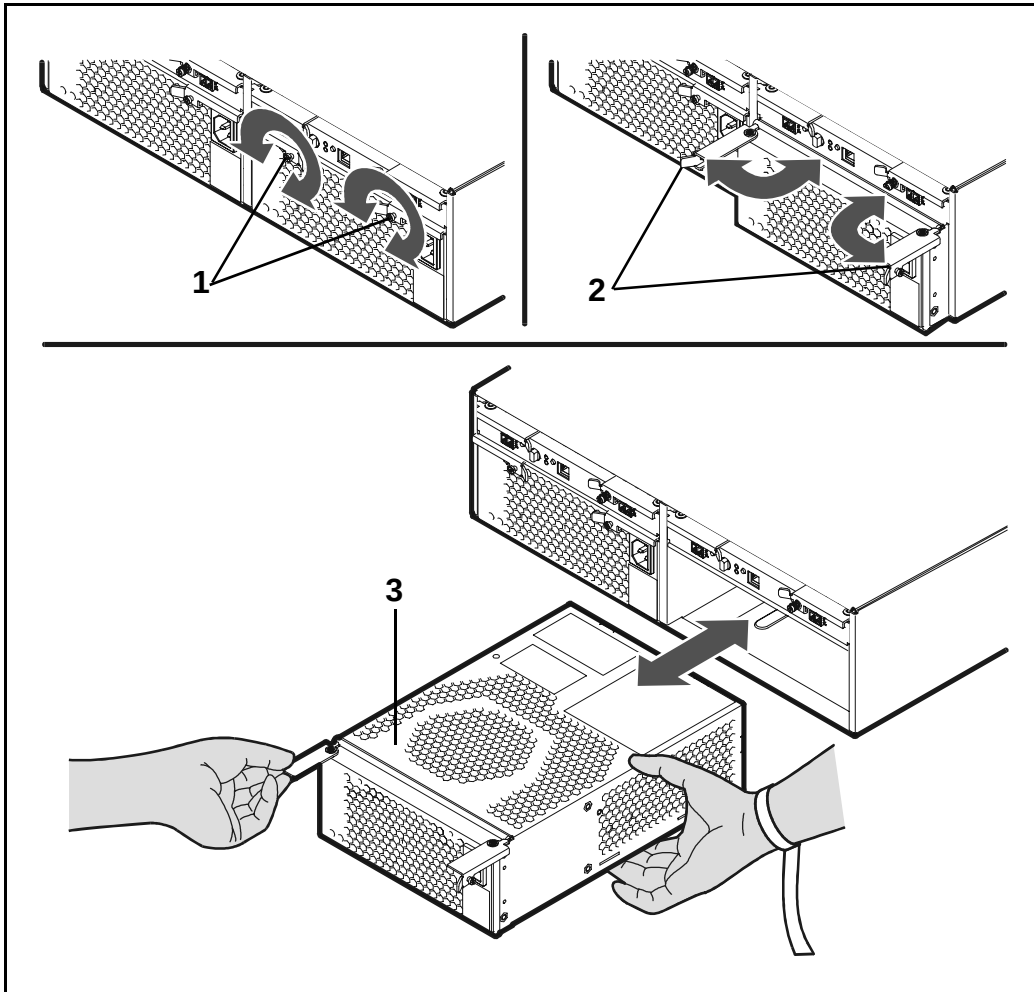

Figure 40 Removing & Replacing a Power Module (JBOD Enclosure)
2. Loosen the cam lever screws (Figure 40, 1) with a T-10 driver or flat-blade screwdriver.
3. Pull out both cam levers (2) at the same time.
4. Pull the power module (3) out of the slot.
1. Pull out both cam levers (Figure 40, 2) at the same time.
2. Push the power module (3) firmly into the slot.
4. Tighten the cam lever screws (1) with a T-10 driver or flat-blade screwdriver.